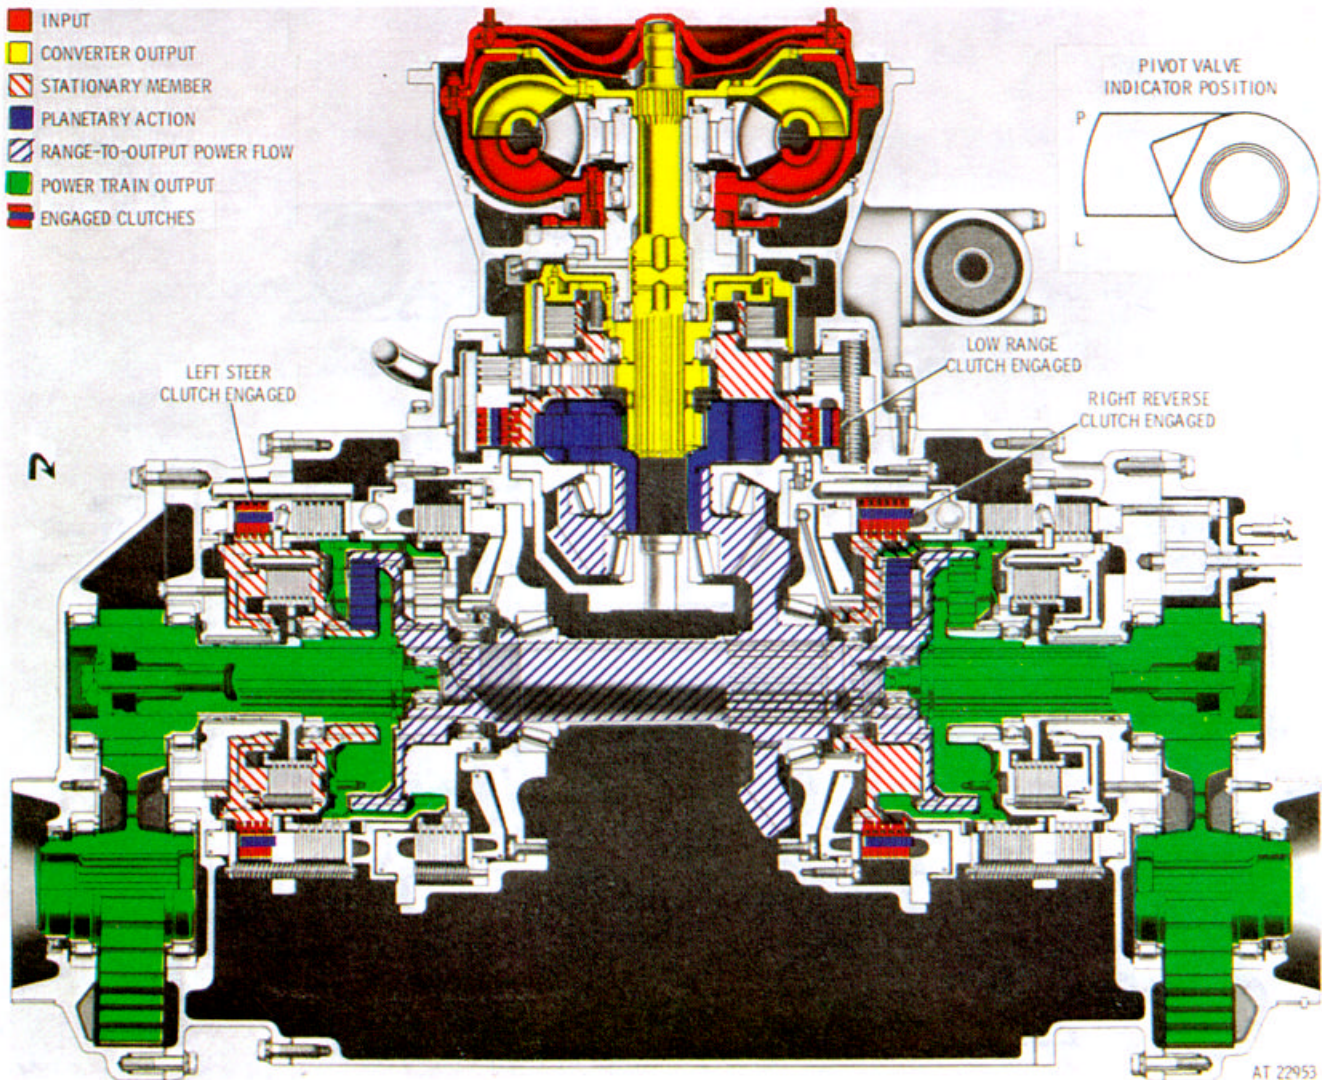

Figure 2-27. First gear. pivot right steer operation-torque path.
a. First Gear, Pivot Right Steer (fig. 2-27).